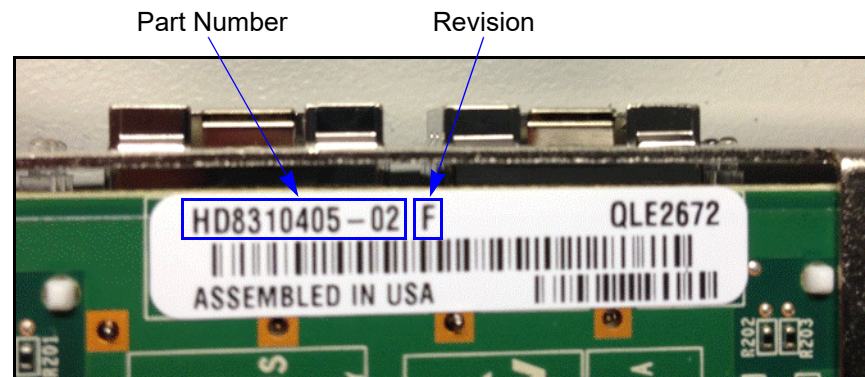

Figure 3-1. 2600 Series Adapter Part Number Location—Physical
- Locate the physical label on the adapter that has the part number (see Figure 3-1), and then check to see if it is listed in Table 3-1.
- In QConvergeConsole CLI **Adapter VPD Information** menu, select a 2600 Series port in the **Adapter Port**. Navigate to **Port Vital Product Data (VPD)** (see Figure 3-1), view the **Engineering Date Code** for the part number, and then check to see if it is listed in Table 3-1.
Some 2600 Series Adapters that support personality change require an *enablement kit* (available on the QLogic Web site) for the change to work. For the adapters listed in Table 3-1 on page 18, revisions A, B, C, D, E, F, and G require the enablement kit; revisions H and later do not. The adapter revision is printed on a label on the adapter (see Figure 3-1 on page 18).